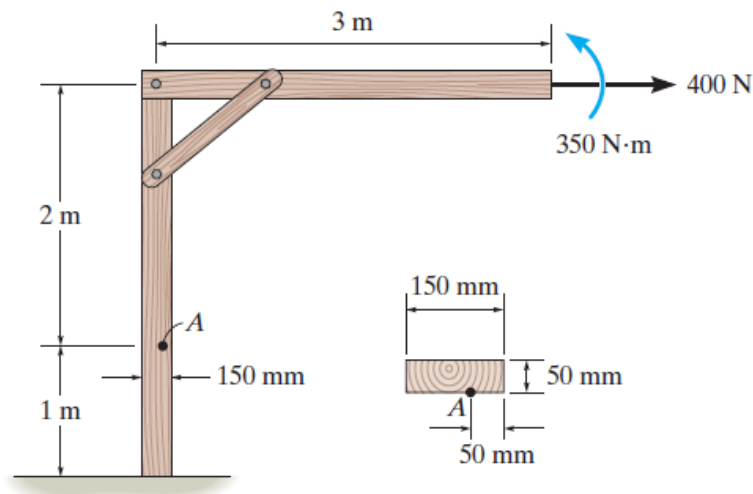

Figure Q4
4. The wood frame showed in **Figure Q4** is subjected to a combined load of 400 N horizontal force and 350 Nm couple moment. The cross-sectional area at point A is also shown in **Figure Q4**.